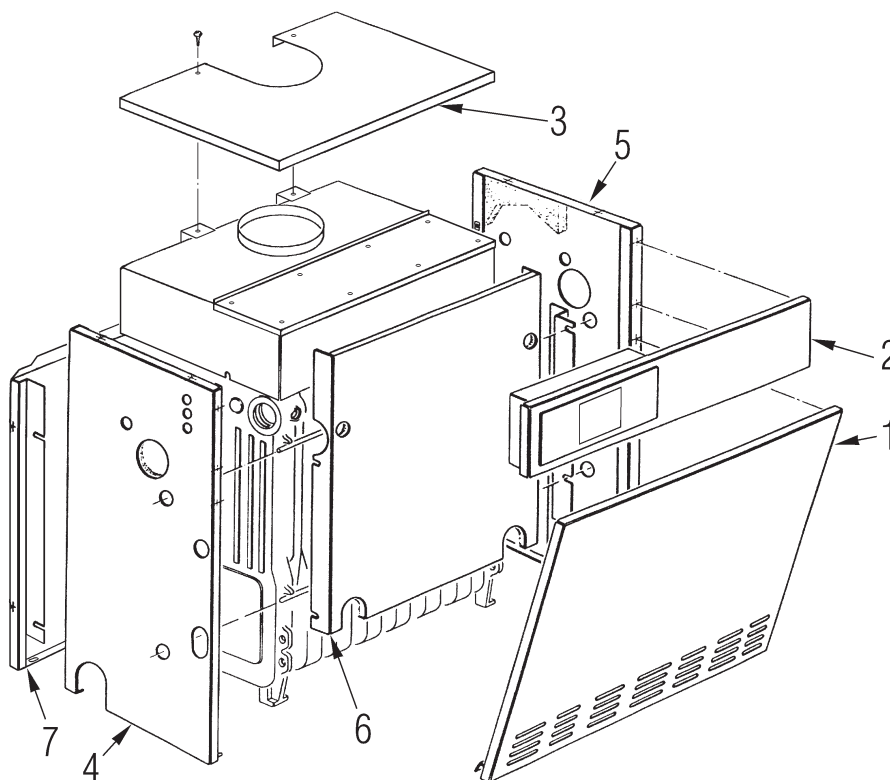

Fig. 12
4.5 SHELL DISASSEMBLY (fig. 12)
Follow the steps described below to disassemble the shell (fig. 12):